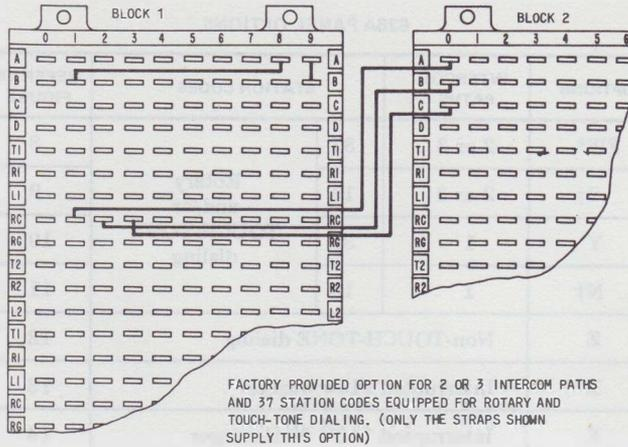

Fig. 8—FW Option
- 4.02 The FW option (Fig. 8) is a factory-provided option. The FW option provides for two or three intercom paths with 37 station codes. Stations can utilize both rotary and TOUCH-TONE dialing. Digits 1, 2, and 3 are used as transfer digits and are not available for station codes. Where the third intercom path is used, an external (66-type)